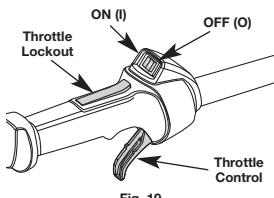

Fig. 19
NOTE: There is no need to turn the unit on. The On/Off Control is in the **ON (I)** position at all times (Fig. 19).
2. Press and hold the On/Off Stop Control switch in the **OFF (O)** position until the unit comes to a complete stop (Fig. 19).
2. Press and hold the On/Off Control switch in the **OFF (O)** position until the unit comes to a complete stop (Fig. 19).